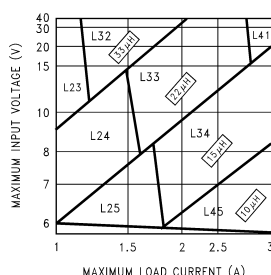
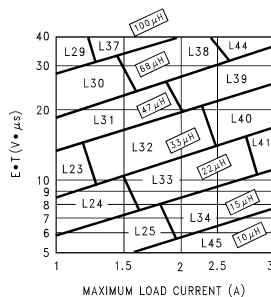

Figure 10. LM2670-3.3EP
Figure 13. LM2670-ADJEP
Step 3: Determine the inductor required by using one of the four nomographs, Figure 10 through Figure 13. Table 1 provides a specific manufacturer and part number for the inductor.
Step 5: Determine an input capacitor from Table 4 for fixed output voltage applications. Use Table 2 to find the specific capacitor type. For adjustable output circuits select a capacitor from Table 2 with a sufficient working voltage (WV) rating greater than $V_{in\text{ max}}$, and an rms current rating greater than one-half the maximum load current (2 or more capacitors in parallel may be required).
Step 3: Use the nomograph for the 3.3V device, Figure 10. The intersection of the 16V horizontal line ($V_{in\text{ max}}$) and the 2.5A vertical line ($I_{load\text{ max}}$) indicates that L33, a $22\mu\text{H}$ inductor, is required.
Step 3: To use the nomograph for the adjustable device, Figure 13, requires a calculation of the inductor Volt•microsecond constant (E•T expressed in V•µs) from the following formula:
Using Figure 13, the intersection of 27V• μ S horizontally and the 2A vertical line (I_{load} max) indicates that L38 , a 68 μ H inductor, should be used.